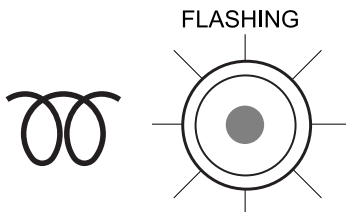

Figure 14. Preheat LED (Flashing)
3. Verify that the preheat LED (Figure 14) is flashing. This will indicate that the preheating process is underway. **Hold** the ignition key in position 2 until the preheating process is complete (LED is solid **GREEN**).